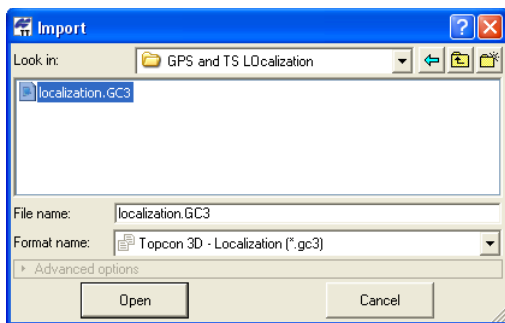

Figure 3-18. Import Localization File
2. On the **Import** dialog box, select *Localization Files* from the Format name drop-down entry box (Figure 3-18 on page 3-23).
4. Click **Open** to import the file (Figure 3-18).